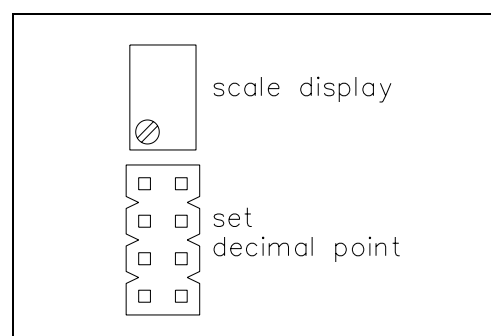

fig. 12: Display setting elements
- Scale the display value with trimmer „scale display“ (fig. 12).
- Set the jumper „set decimal point“ (fig. 12) in the position which gives a correct decimal point in the display.